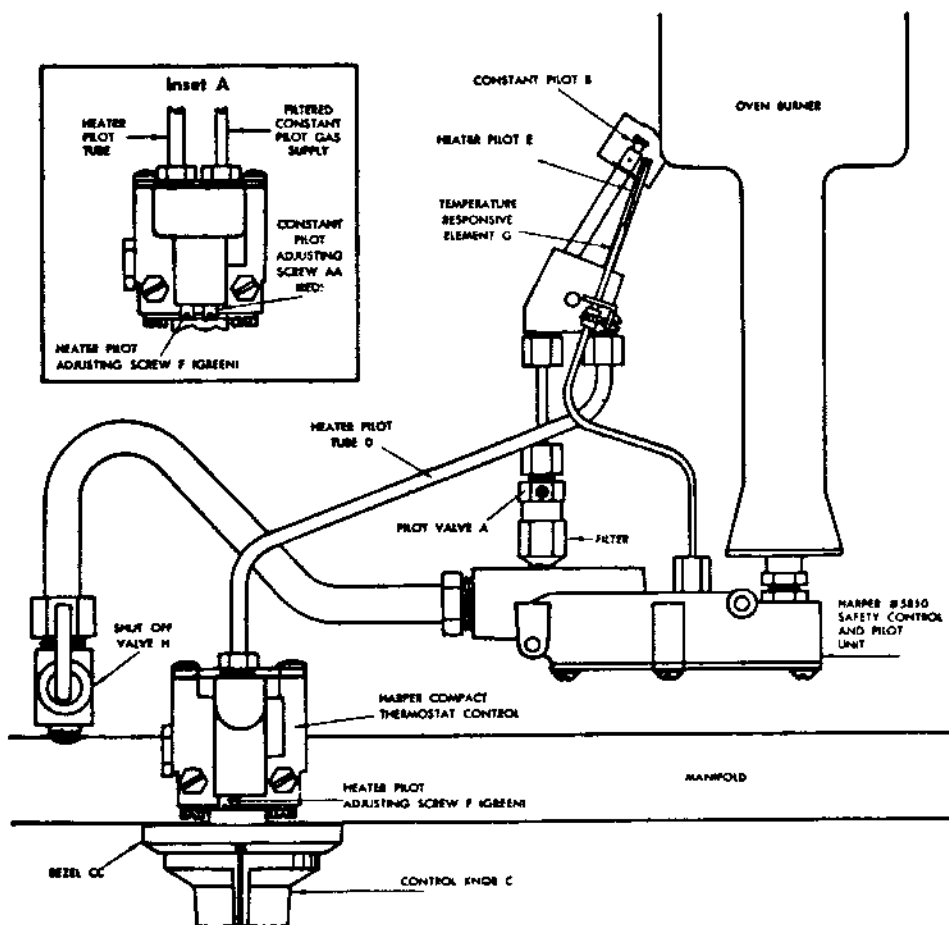

FIGURE 7-B
2. Air shutters on top burners are to be adjusted so that each cone of the flame is separate and distinct and appears as illustrated in Figure 7-A. Air shutters set too far open will cause flame to lift away from burner head and will be difficult to light. If air shutters are closed too much the flame will look hazy and the distinct cones will be missing.
1. To adjust pilot: (refer to Figure 7-B)
Your oven is equipped with a coaxial orifice for use on LP gas. The main burner when adjusted to the proper rate will have a flame approximately ¾-inch long. The air shutter on the main burners should be adjusted so the cone of each flame is separate and distinct. See figure 7-A.